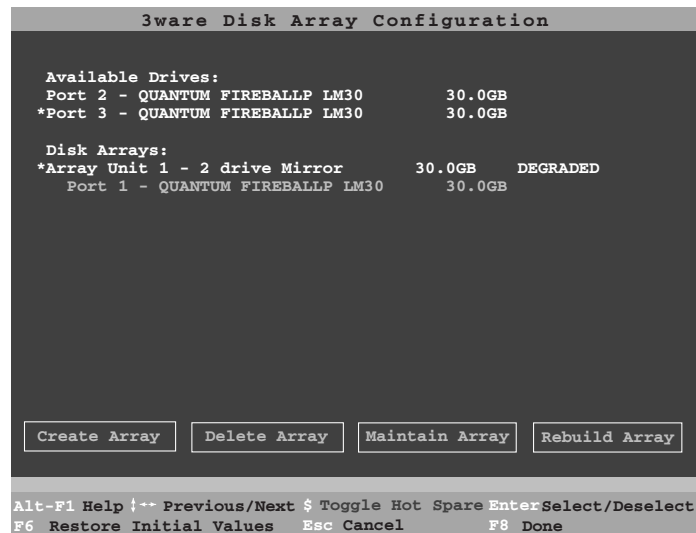

Figure 22. Select Available Drive to Replace Faulted Drive, RAID 1 Example
- 7 Select an available drive to replace the faulted drive in the array by navigating the cursor over the available drive and pressing **Enter** (see Figure 22). An asterisk in the left most column indicates the drive is selected.